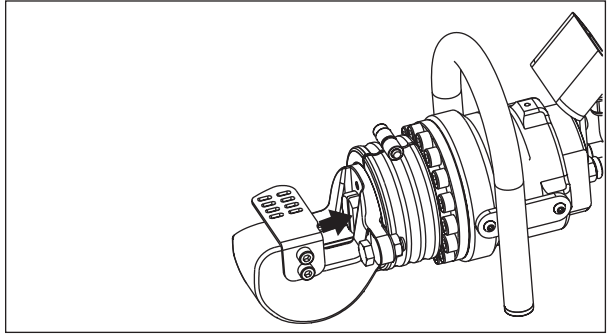

Figure 6, Piston and Blade in Home Position (fully retracted)
Always be sure that the piston and moving blade are in the fully retracted "home" position before placing any material inside the cutting head. See Figure 6.
2. Be sure that the piston is in the “home” (fully retracted) position. See Figure 6.